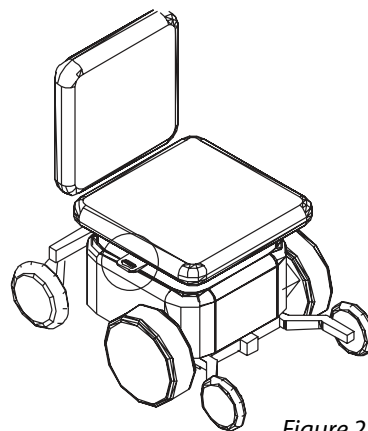

Figure 27-4
6. Replace the seat on the chair. [Figure 27-4]